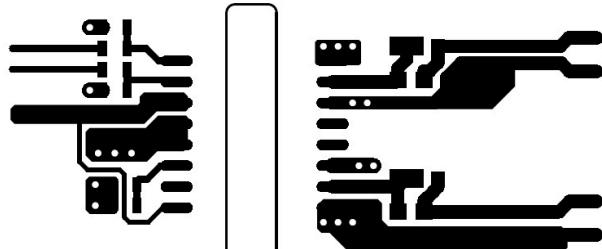
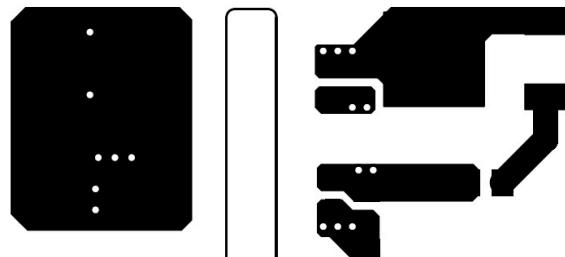

図 10-2. Top Layer Traces and Copper
図 10-3. Bottom Layer Traces and Copper
- Increasing the PCB copper connecting to VDDA, VDDB, VSSA and VSSB pins is recommended, with priority on maximizing the connection to VSSA and VSSB (see 図 10-2 and 図 10-3). However, high voltage PCB considerations mentioned above must be maintained.
图 10-2 and 图 10-3 shows top and bottom layer traces and copper.